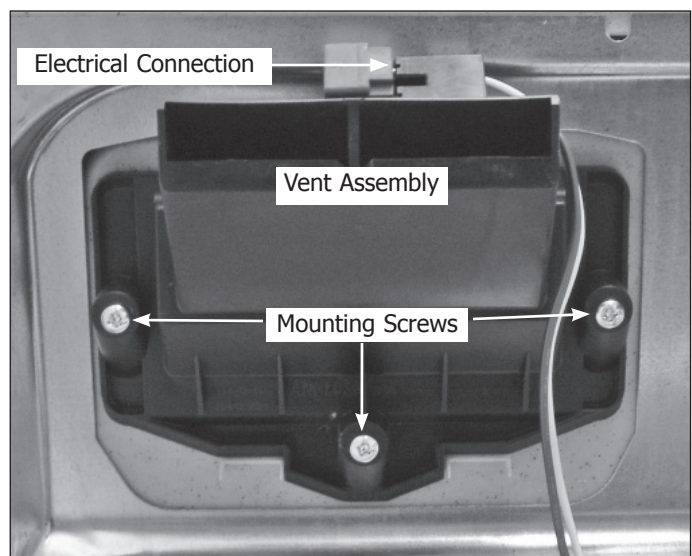

Figure 4-9.
4. Extract the three screws, using either a Phillips head or a #1 square bit driver, that secure the vent housing to the inner door panel. (See Figure 4-9) Pull vent assembly off inner panel.